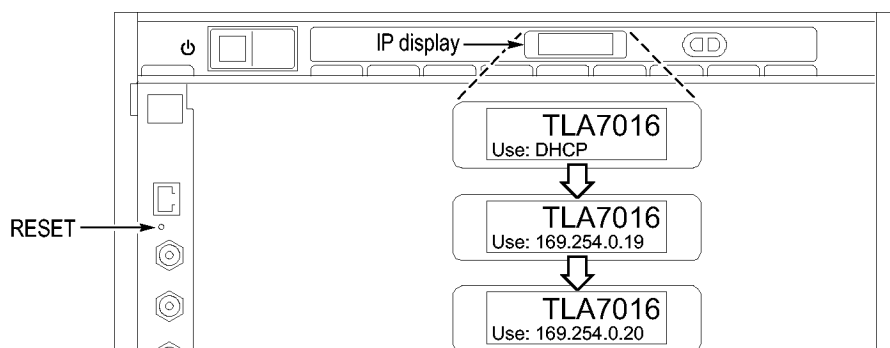

Figure 5: Setting the IP address
1. Press and hold the reset button on the TLA7016 Interface Module. (See Figure 5.)
7. On the TLA7016 Interface Module, press and hold the RESET button until the IP address 169.254.0.19 shows in the TLA7016 front panel display. (See Figure 5 on page 11.) The front-panel display cycles every 2-3 seconds to the next preset address. (See Table 7 on page 11.)